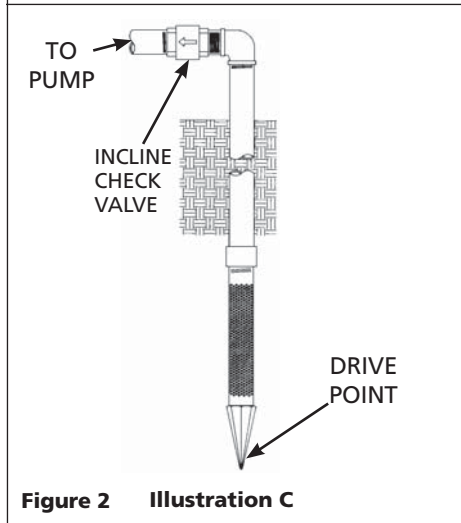

Figure 2 Illustration C
A shallow well pump can be used when the pump is located within 25 feet vertically of the water level. Shallow well pumps have only one pipe between the pump and the water supply (Figure 2).
1. Install a foot valve on the first section of pipe (Figure 2, Illustration A).
**NOTE:** A packer type foot valve can be installed in the well (Figure 2, Illustration B). This type of foot valve allows the well to be filled with water when priming and makes the inlet pipe much easier to test for leaks. Follow the manufacturer's instructions when installing the packer type foot valve.
As an alternative, an in-line check valve can be used with a driven well (Figure 2, Illustration C). The pipe between the check valve and the water level will always be under a vacuum.